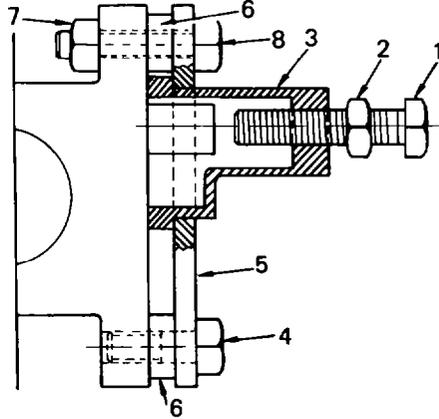

Fig. 118 — Installing "PLE" Gauge
1. Thread the locknut (fig. 118, item 2) onto the adjusting bolt (item 1) and install the bolt into the gauge cap (item 3).